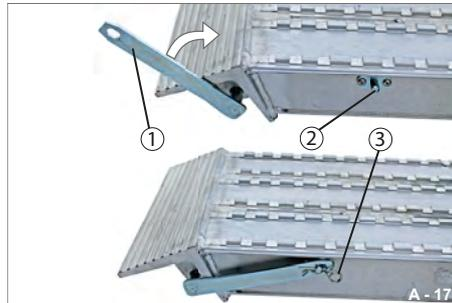

Fig. 190 Closing the securing hook
- ▶ Swing the locking lever (Fig. 190/1) towards the retaining bolt (Fig. 190/2) and attach it to the retaining bolt.
- ▶ Feed the spring pin (Fig. 190/3) through the bore hole in the retaining bolt. The locking lever is closed and secured.